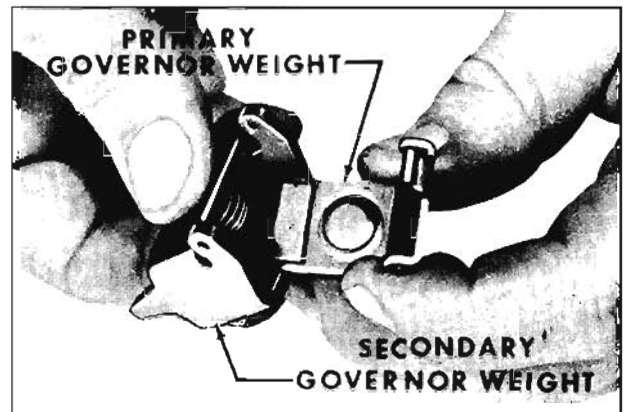

Fig. 6-378 Installing Secondary Governor Weight
3. Retaining governor weight spring in primary governor weight with finger, insert secondary governor weight. Repeat Steps 2 and 3 for other governor weight. (Fig. 6-378)